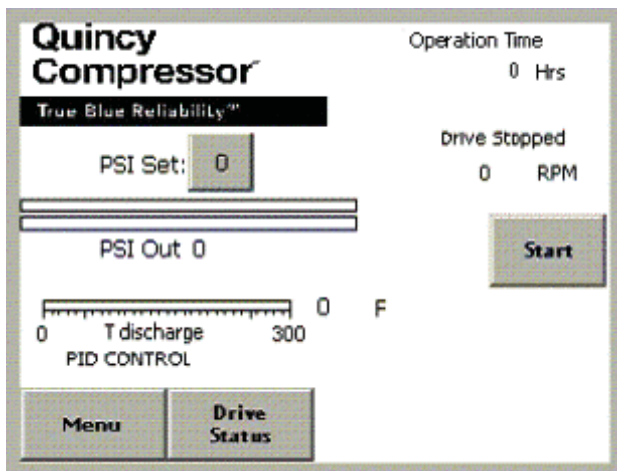

Figure 4-1. Start-up Screen
- When power is applied to the compressor, the QGV control panel will go through several self-test routines. After applying power to the compressor, wait for the start-up screen (figure 4-1) to appear.
The 'Drive Status' informational screen is accessed from the Start-up Screen (figure 4-1) and is not a password protected screen. This screen shows the current operating conditions on the motor including supplied voltage(s), current draw, computed torque and resultant horsepower.
Touch 'Menu' on the main start-up screen (figure 4-1) to access the 'Menu Selection' screen which provides access to various settings and information about the compressor.